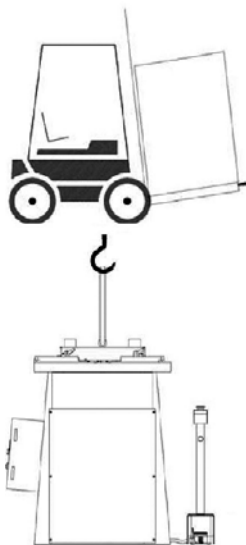

Fig. 4: Transport
- Adjust the forks so that the crate is properly balanced (Fig. 4).
A transport eyebolt can be attached to the upper side of the notching machine housing in which the transport rope can be inserted (Fig.4).
On the upper side of the notching machine housing, a transport eyebolt can be fitted into which the transport rope for crane transport can be inserted (Fig. 4).